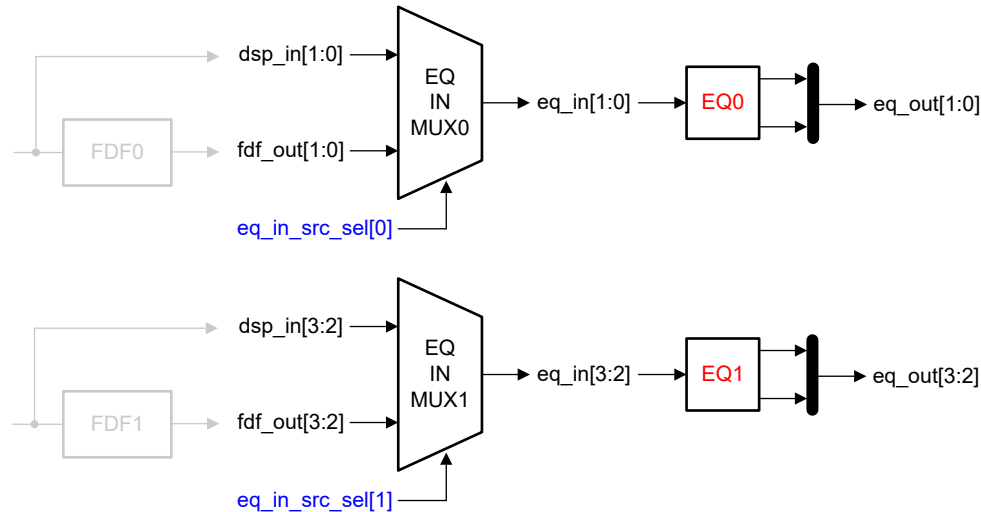

Figure 7-18. FIR Equalizer Configurations
The ADC32RF7x includes an integrated programmable FIR filter block referred to as an equalizer (EQ). As illustrated in Figure 7-18, there are two EQ blocks (EQ0 and EQ1) which are located at the output of the fractional delay filters (FDF0/1). Each EQ block can source the input data stream from either `dsp_in` directly or from the preceding FDF block. There are a total of four output data streams (`eq_out[3:0]`) where each output stream corresponds to a distinct filtered input stream.